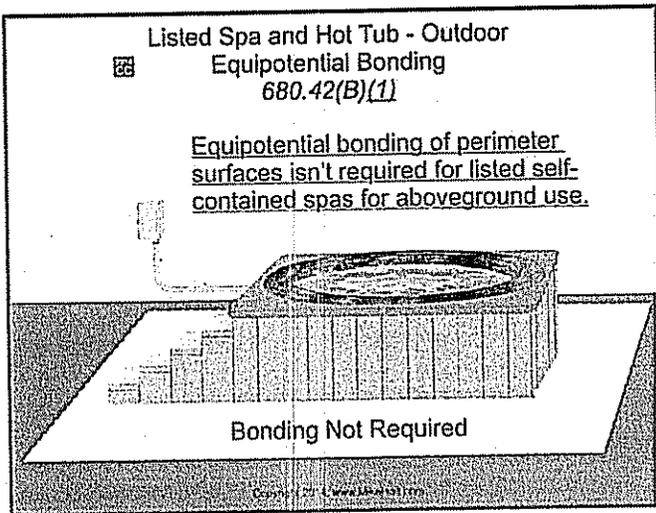

Figure 680-53
**(B) Equipotential Bonding.** Equipotential bonding of perimeter surfaces [680.26(B)(2)] isn't required for outdoor spas and hot tubs if they meet all of the following conditions: Figure 680-53